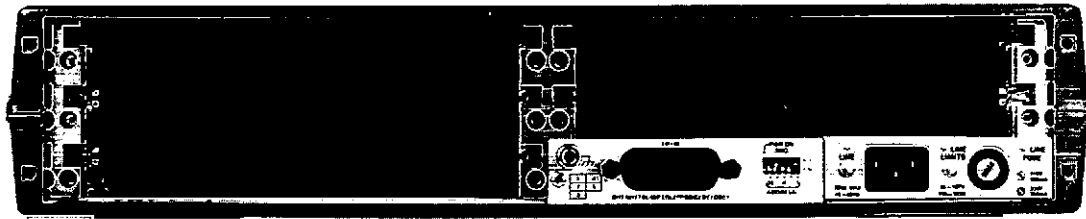

Figure 6-2. Rear Panel View Of The 3488A
- c. Select a slot. Refer to Figure 6-2, the 3488A has five slots for installing option assemblies. The 44470A can be used in any of the five slots.